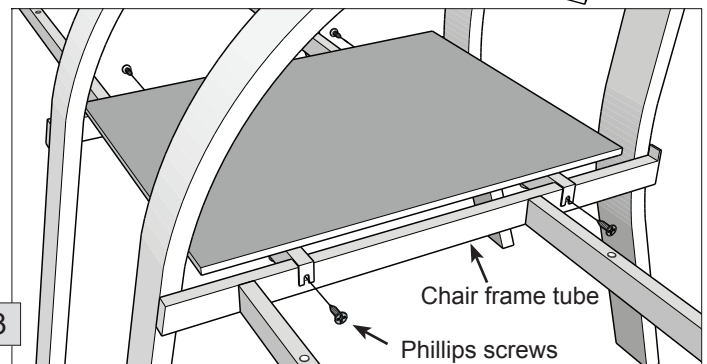

Fig 3
6. Slotted brackets should fit over chair frame tubes, as shown in figure 3.